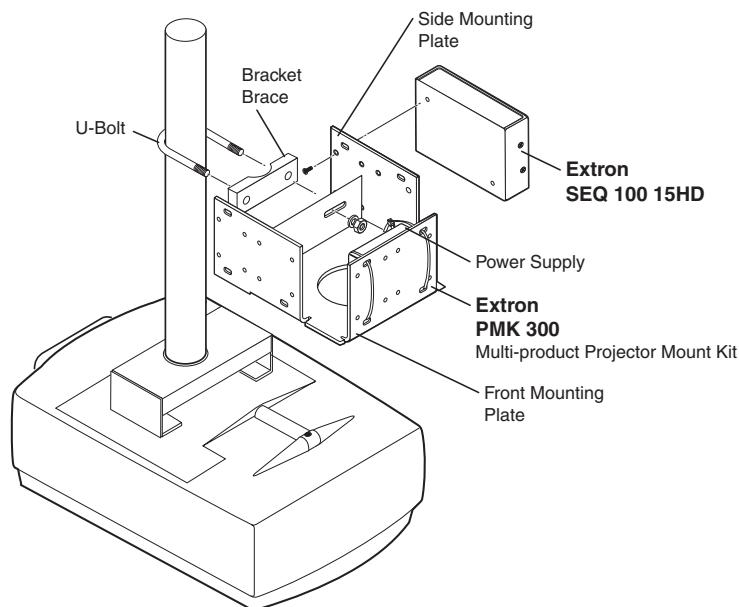
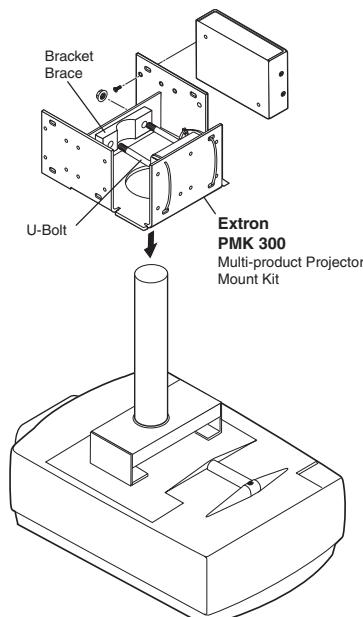

Figure 8 — PMK 300 projector mounting an SEQ
Figure 9 — Projector pole on the inside
Mount the SEQ to a PMK 300 bracket (figure 8) as follows:
2. Mount the SEQ to one of the bracket's three mounting plates using two of the supplied 4-40 x 3/16" screws in opposite (diagonal) corners to secure the device to the bracket. It can be vertically mounted facing either up or down (figure 8).
NOTE *The PMK 300 has a hole in the bottom plate that allows the projector pole to be inserted through the center of the plate (figure 9), rather than outside of the plate (figure 8). To install the PMK 300 in this configuration, slide the bracket up from the bottom of the pole before the projector is installed on the pole.*